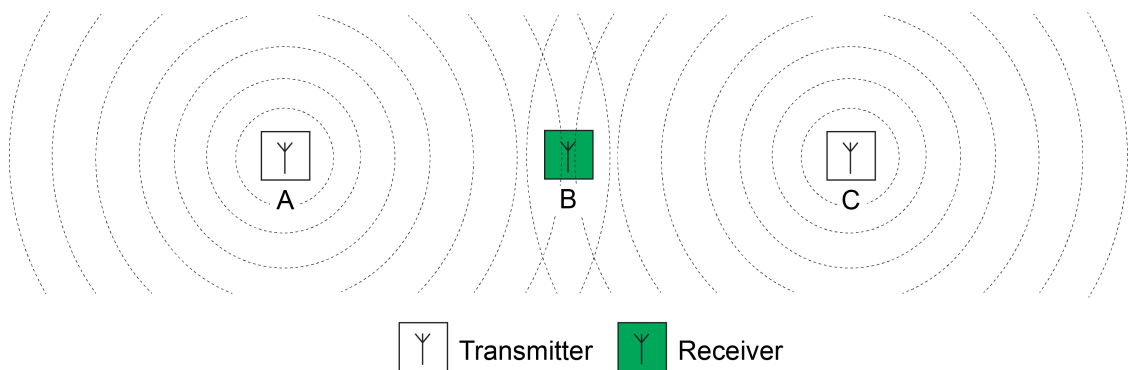

Figure 8: Radio collisions on the receiver due to the transmitter being too far away
The described transmission method for controlling media access generally prevents radio collisions in a KNX RF environment, but cannot exclude them completely. For example, it may occur that, in the case of a transmission between an RF transmitter (A) and an RF receiver (B), there is an additional RF transmitter (C), which is located within the range of the RF receiver, but cannot reach the other RF transmitter due to the spatial distance (figure 8). In such a case, the two RF transmitters are unable to detect when the other transmits radio signals (Hidden Station Problem). In consequence, radio collisions can occur on the receiver located in the range of the two RF transmitters.